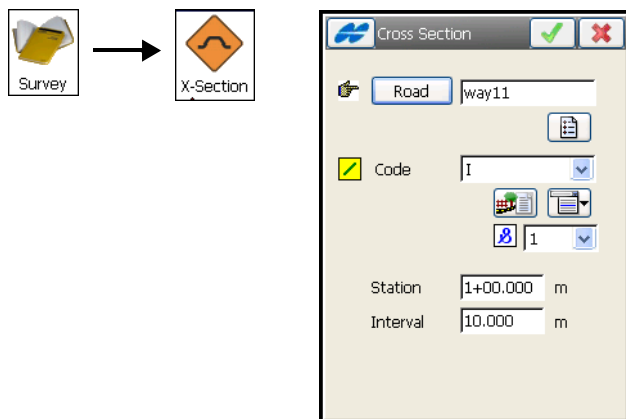

Figure 8-52. Cross Section
1. To start working, tap **Survey ► X-Section** (Figure 8-52 on page 8-52).
2. On the **Cross Section** screen (Figure 8-52 on page 8-52), select or enter the following parameters for the station where the survey will be performed, then tap : the road name, the code and attributes of the center line, the station where the cross section is surveyed, and the interval distance to the next station. If the road has not been created, define the plane.